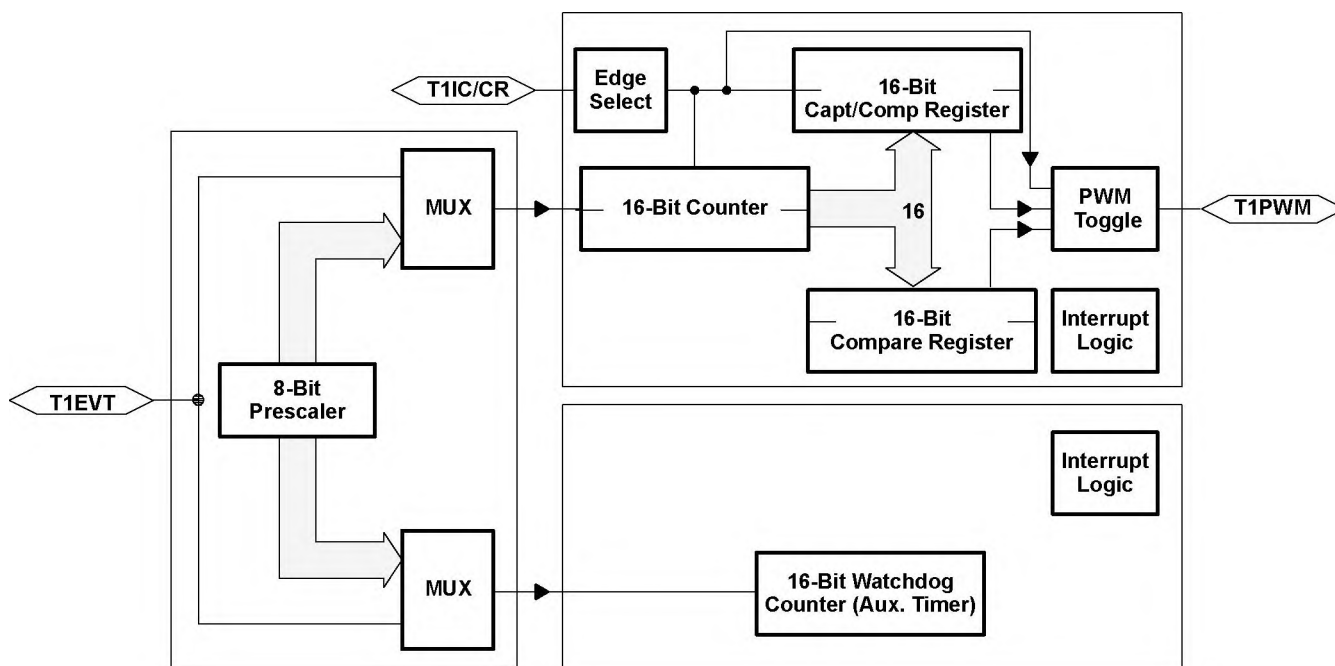

Figure 6. Timer 1 Block Diagram
The programmable timer module of the TMS370Cx2x provides the enhanced timer resources required to perform real-time system control. The Timer 1 module contains the general-purpose timer T1 and the watchdog (WD) timer. The two independent 16-bit timers (T1 and WD) allow program selection of input clock sources (real-time, external event, or pulse-accumulate) with multiple 16-bit registers (input-capture and compare) for special timer function control. The timer 1 module includes three external device pins that can be used for multiple counter functions (operation-mode dependent), or used as general-purpose I/O pins. The T1 module is shown in Figure 6.